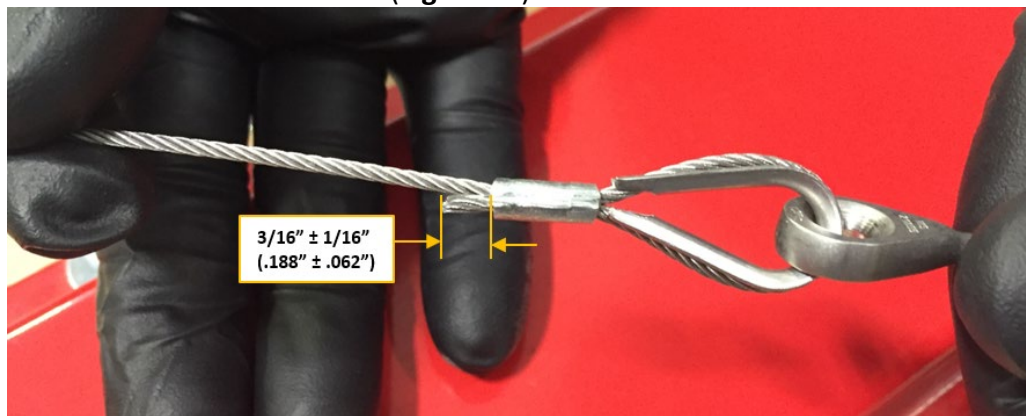

Figure 15. Swaging
- v. The length of the free end of the cable beyond the edge of the swage fitting should be .125-.250" when finished. **(Figure 15)**